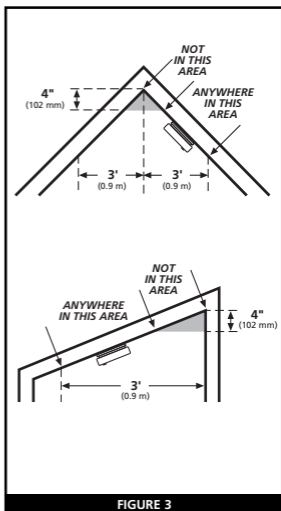

FIGURE 3
- Install Smoke Alarms on sloped, peaked or cathedral ceilings at or within 3ft (0.9m) of the highest point (measured horizontally). NFPA 72 states: "Smoke alarms in rooms with ceiling slopes greater than 1 ft in 8 ft (.3m in 2.4 m) horizontally shall be located on the high side of the room." NFPA 72 states: "A row of detectors shall be spaced and located within 3 ft (0.9m) of the peak of the ceiling measured horizontally" (see figure 3).
2. After selecting the proper smoke alarm location as described in Section 1, attach the mounting bracket to the ceiling as shown in figure 3. For wall mounting see figure 4. Place the mounting plate on the wall; be sure the "A" line is horizontal (parallel to the floor). Use the screws and anchors provided to secure the mounting bracket (use 3/16" drill bit for anchors).